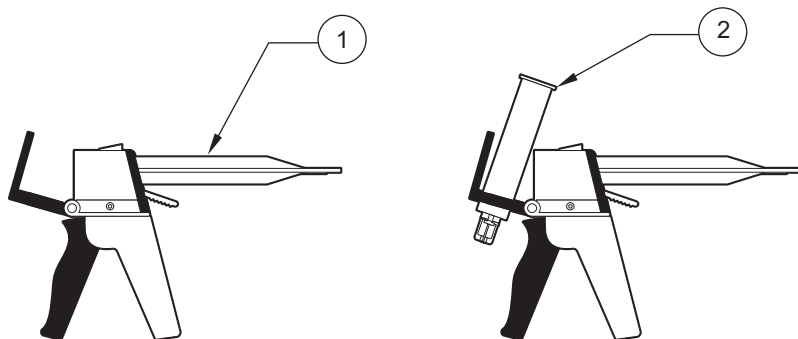

Figure 16 Loading the Cartridge into the Dispensing Gun
3. Load the oil cartridge into the dispensing gun (Figure 16).